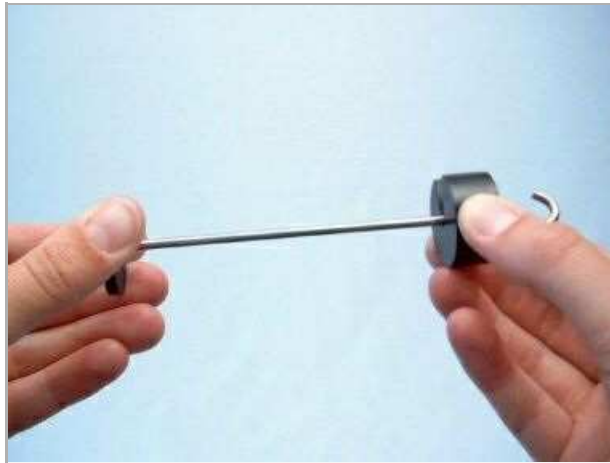

Fig. 5
- Hang the weight holder with a mass of $m_{\text{tot.}} = 100 \text{ g}$ at mark 9 on the right side of the lever. For hanging the slotted weight up the weight holder, slip the slotted weight over the top of the weight holder (Fig. 5).